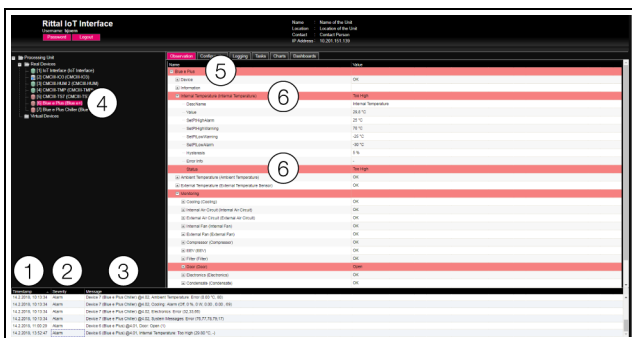

Fig. 20: Structure of the message display
1. Timestamp: Date and time when the error occurred (fig. 20, item 1).
2. Severity: The severity of the error that has occurred. A differentiation is made between warnings and alarms (fig. 20, item 2).
3. Message: Error message in plain text (fig. 20, item 3).
ing; fig. 20, item 4).
- Right-hand screen area (configuration area): The complete component as well as the special parameters for which the warning or alarm is pending is coloured red or yellow on the **Observation** tab (fig. 20, item 5 and 6).